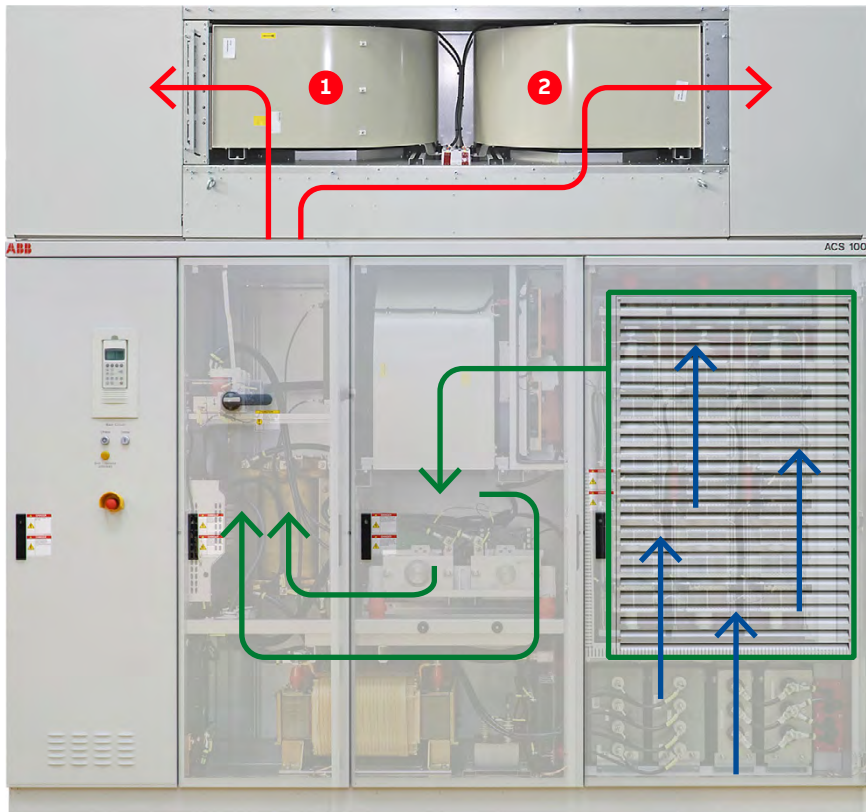

Figure 3-16: Air flow– redundant fan configuration
- **Redundant:** Fan 1 and fan 2 (1 and 2 in Fig. 3-16) are installed on the roof. This configuration enables continuous operation of the drive if a fan fails.